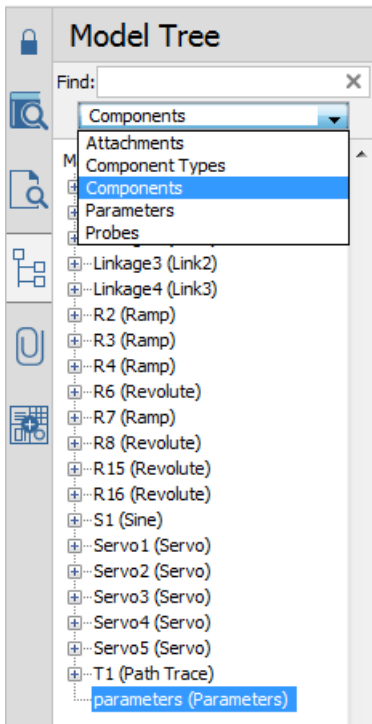

Figure 2.1: Components view in the Model Tree
- **Components:** This view organizes the model tree view according to the *Name* of each component or subsystem. Component and subsystem nodes are identified by their name followed by their type (see **Figure 2.1**). Enter a term in **Find** to search for component